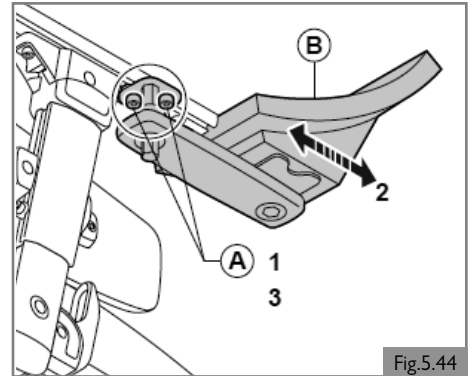

Fig.5.44
1. Loosen (A) by one turn.
2. Adjust (B) to the desired position.
3. Tighten (A). See section 9 for specified torque values.
**5.11 Pre-set fixed / swing away controller****Bracket depth of the controller (Fig. 5.44)**